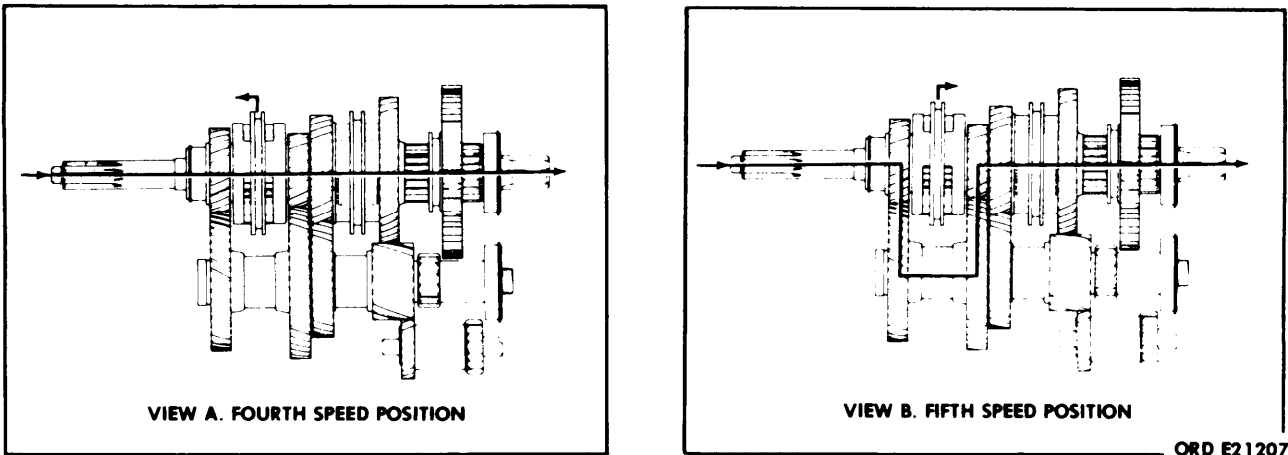

Figure 3-15. Power Flow — Transmission Model 3053A.
(1) *Power Flow.* Power flow for transmission model 3053A is the exact opposite of the power flow for transmission model 3052. See figure 3-15 for the difference in power flow. See figure 3-12 for first-, second-, and third-speed power flow.
(2) *Fourth-Speed Power Flow.* Power is transmitted from the input gear, which is coupled to the mainshaft by the fourth-fifth synchronizer, directly to the mainshaft. Because the interlocking action of the synchronizer in effect makes one continuous shaft of the input shaft and mainshaft, the drive here is direct; i.e., a 1-to-1 ratio. (See fig. 3-15, view A.)
(overdrive) synchronizer and to the mainshaft. (See fig. 3-15, view B.)